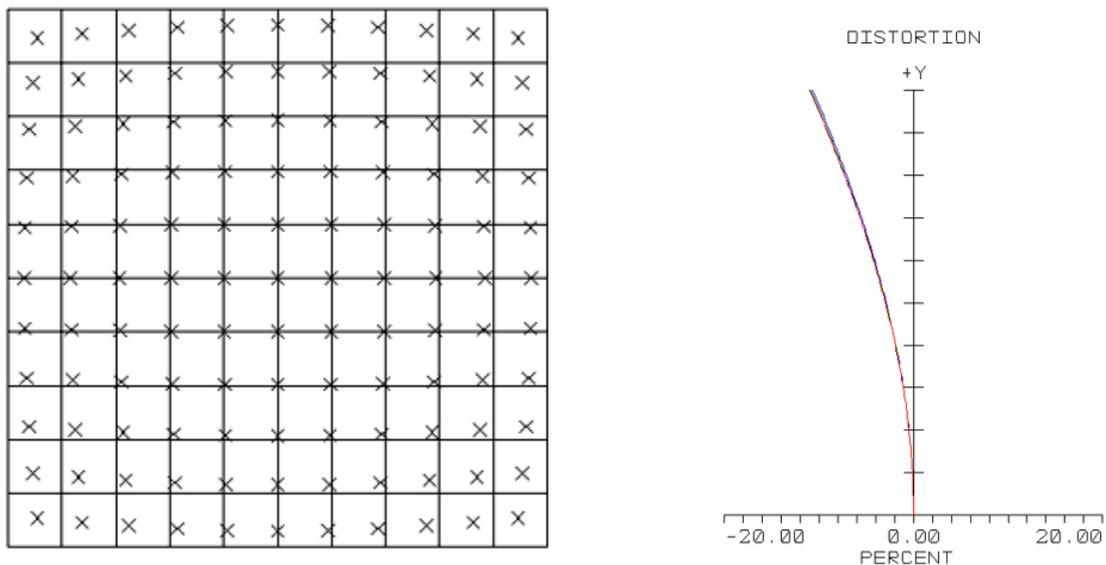

Figure 3. Barrel distortion in a modified König eyepiece.
4) *Distortion*. What you want is a rectilinear grid at the focal plane re-imaged as a rectilinear grid on the retina. What you get is considerably different, as is shown in Figure 3, which depicts the inner 33 degrees of a modified Kellner eyepiece.